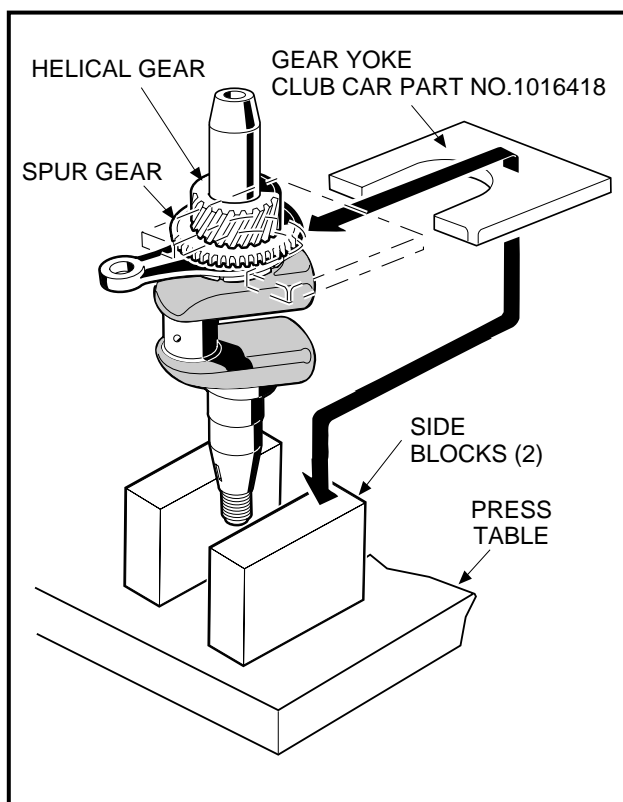

Figure 13-74 Place Assembly In Press
2. If the link rods need replacing, place the gear yoke (Club Car Part No. 1016418) under the spur gear with the small end of the connecting rod located opposite the crankpin (**Figure 13-74, Page 13-35**).
3. Position the gear yoke with the side blocks positioned as close to the crankshaft as possible (**Figure 13-74, Page 13-35**).